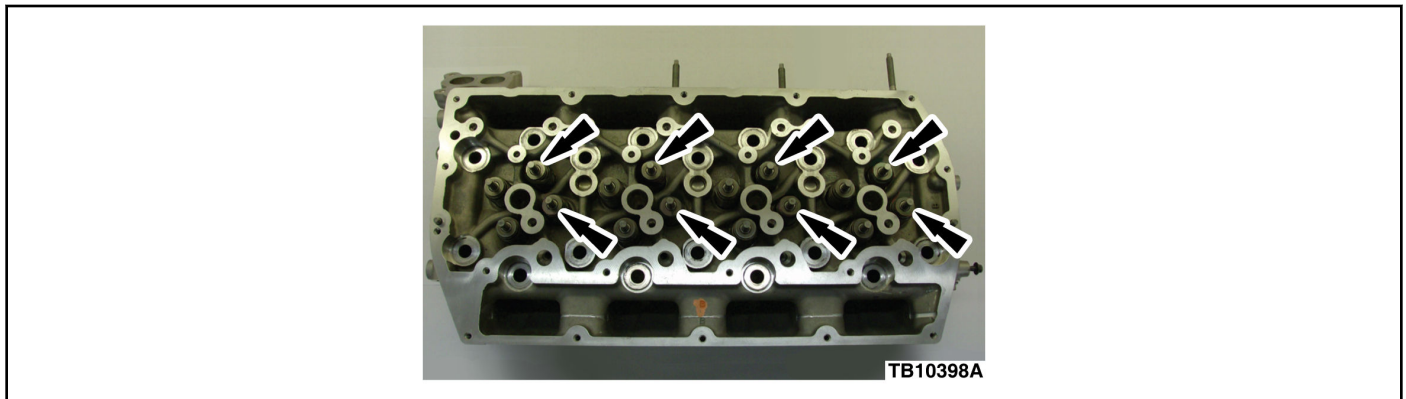

Figure 1 - Article 15-0124
4. Replace all eight (8) exhaust valves and valve seals. Refer to WSM, Section 303-01. (Figure 1)